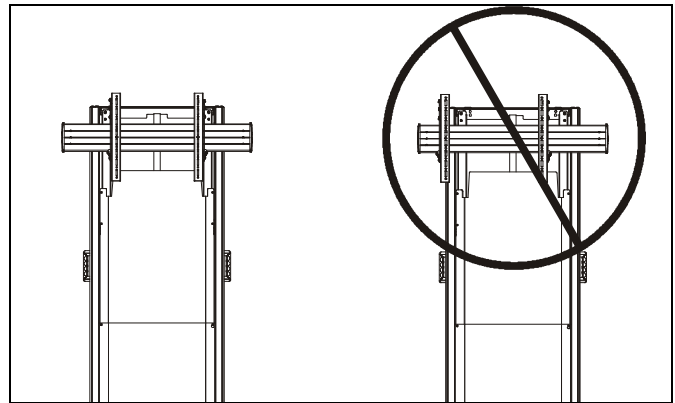

Figure 11
**⚠ WARNING:** In order to ensure an even mount, uprights **MUST** be centered over column assembly. Do **NOT** install both uprights to the same side of column assembly! (See Figure 11)